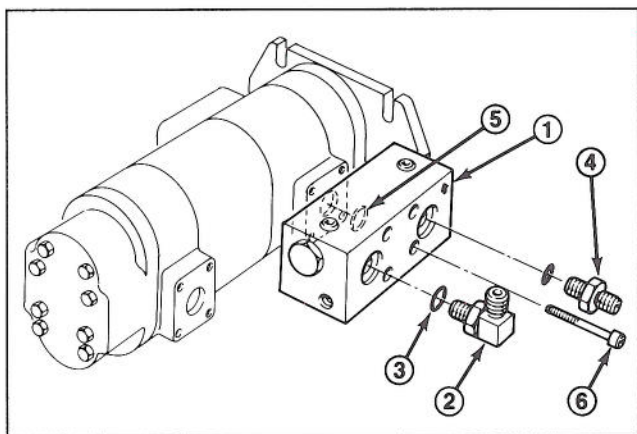

**Figure 4**
3. Remove the 90 degree fittings from the right front and rear of the pump because they will not be used (Fig. 4). However, the two-piece mounting flange that held the rear fitting to the pump will be used later. The other two-piece mounting flange will not be used.